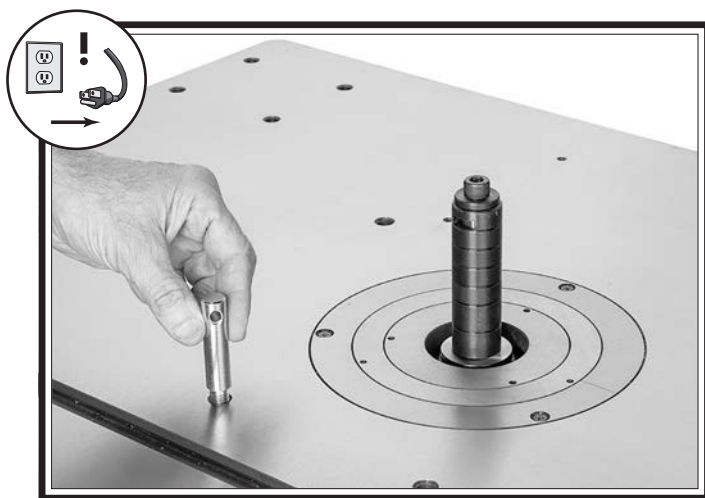

Figure 56. Inserting starting pin.
6. Insert starting pin into table surface, using pin location that best supports your work (see **Figure 56**).